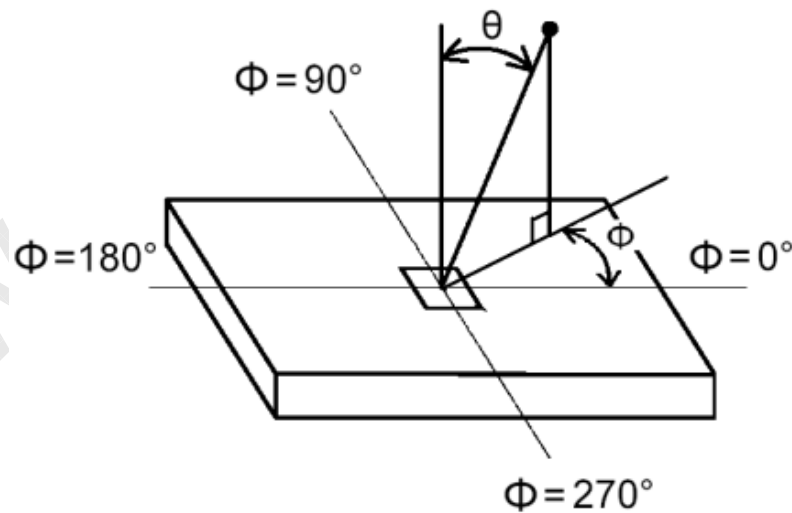

Fig.4-5 Viewing Angle Definition
6. Viewing angle is the angle at which the contrast ratio is greater than 10. The angles are determined for the horizontal or x axis and the vertical or y axis with respect to the z axis which is normal to the LCD surface. For more information see FIG4-5.